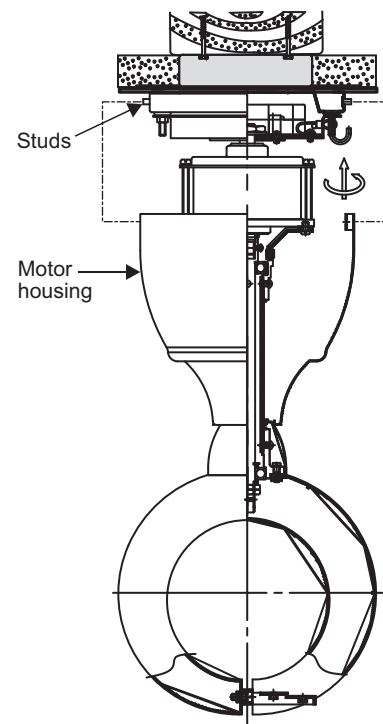

Fig. 9
Step 2. Raise the motor housing up against the mounting plate, the four supports inside the housing should be placed against the four studs on mounting plate, twist the housing clockwise until snug. (Fig. 9)